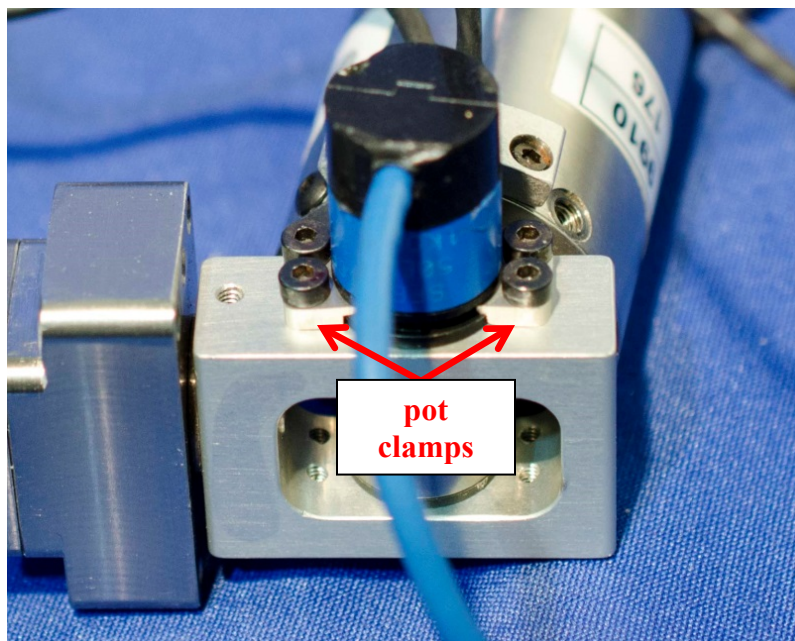

Figure 9-12. Install Z-axis potentiometer pot clamps
- 9.2.2.8 Install the pot clamps on both sides of the rotary potentiometer using two M2 x 0.4 x 5 SHCS per clamp (Figure 9-12).